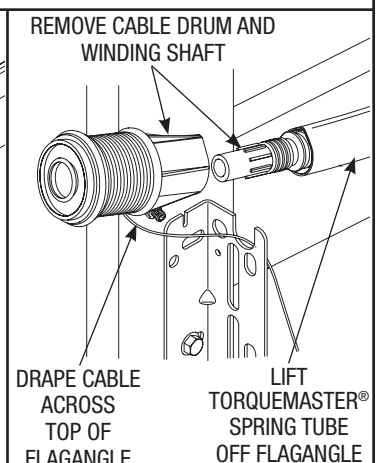

Fig. 9
Step 9: Lift the right hand side of the TorqueMaster® spring tube and slide the cable drum off. Realign the groove in the winding shaft with the radial notch in the flagangle and drape the counterbalance cable with drum over the flagangle. Lift the left hand side of the TorqueMaster® spring tube and slide the cable drum and winding shaft off (Fig. 9). Drape the counterbalance cable with drum over the flagangle. Lift the TorqueMaster® spring assembly off the flagangles and out of the doorway. Unhook the counterbalance cables from the bottom brackets and remove all parts from the work area.